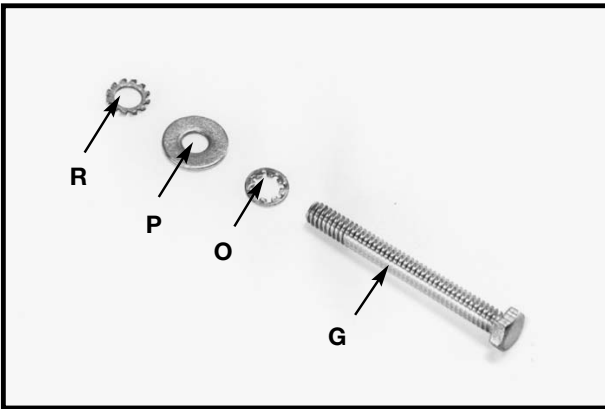

Fig. 18
3. Locate the 1/4-20x2 inch hex head screw (G) Fig. 18. Place the 1/4 inch internal tooth lockwasher (O) M6.4 flat washer (P) and the 1/4 inch external tooth lockwasher (R) on the screw (G).